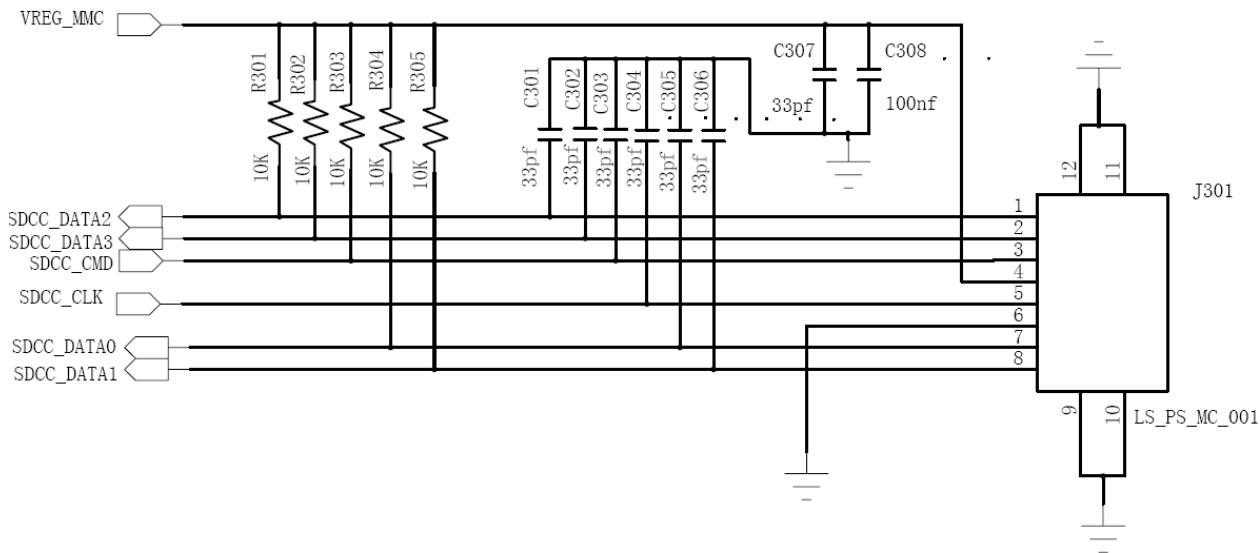

Figure 2-9 The reference circuit of Micro SD card interface
The reference circuit of Micro SD card interface is shown in Figure 2-9.
- 1) The data line of Micro SD such as SDCC_DATA0, SDCC_DATA1, SDCC_DATA2, SDCC_DATA3 and SDCC_CMD, should be connected to Micro SD card power supply by pull-up resistors with reference value 10K Ω . Just like R304, R305, R301, R302 and R303 in Figure 2-9.
- 2) To get more flat Micro SD card power supply, it is recommended to use filter capacitors. Just like C307 and C308 in Figure 2-9, and the reference values are 33pF and 100nF.
SDCC_DATA0, SDCC_DATA1, SDCC_DATA2, SDCC_DATA3 and SDCC_CMD、SDCC_CLK. Just like C301, C302, C303, C304, C305 and C306 in Figure 2-9.